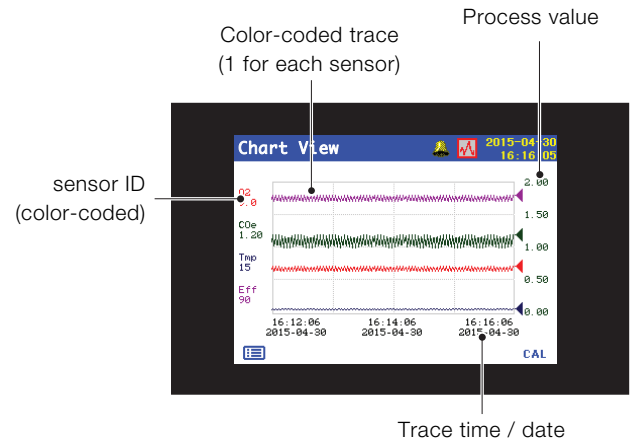

Fig. 8.8 Chart view
- *Chart view* – represents the sensor readings as a series of color-coded traces (see Fig. 8.8)